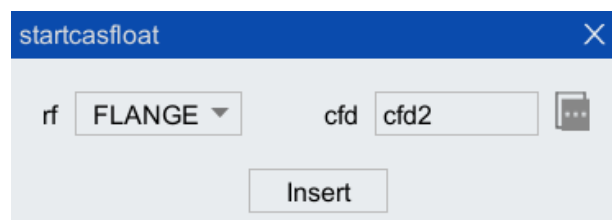

Figure 5-13 Parameter configuration interface
- Step4. Click <Insert > to insert and start the Cartesian space soft float instruction. As shown in Figure 5-13.